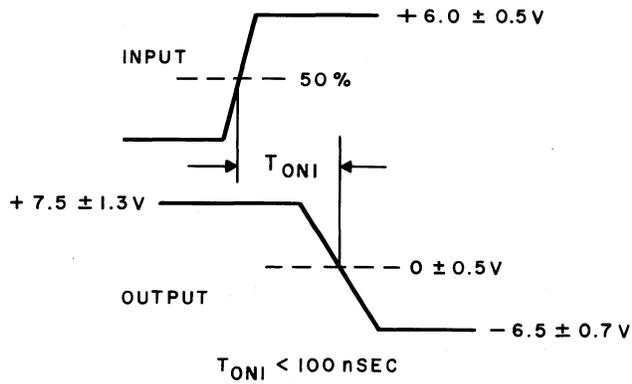

Fig. 35 - (EIA Interface Test)
- (1) Rotate the switch through positions 1 to 5. The input-output wave forms shall be as specified in Fig. 35.